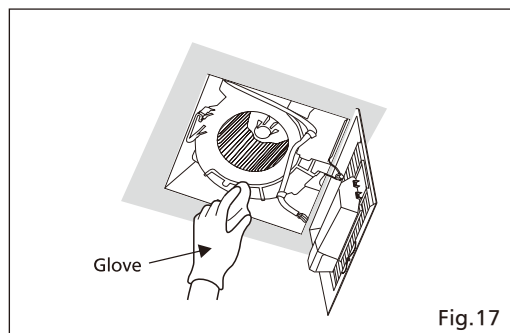

Fig.17
4. Using a cloth dampened with kitchen detergent, remove any dirt from fan body. Wipe dry with clean cloth. (Fig.17)